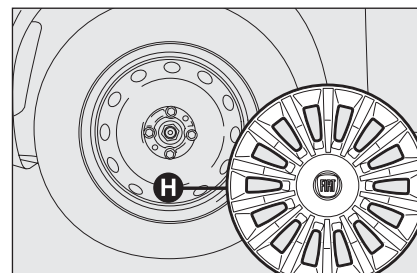

fig. 4
- ☐ remove wheel hubcap **H**-fig. 4 (versions with steel rims) or remove the hub cap (versions with alloy rims);